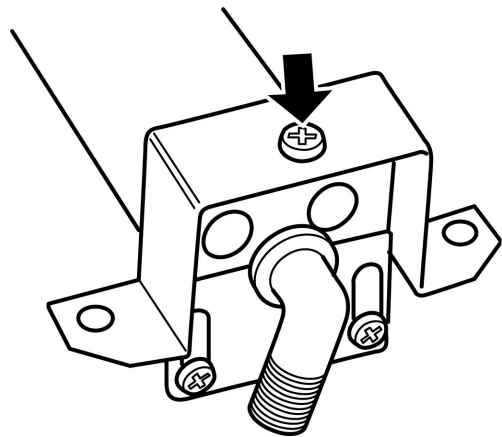

Figure 25. Main burner injector removal
(See figure 25).
2. Remove the burner clamping screw (See figure 25)